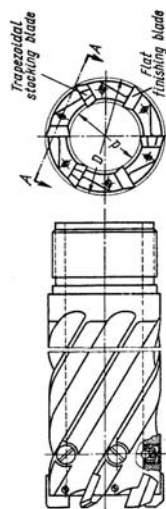

Fig. 4.2.14 Schematic view of a trepanning tool.
- △ Trepanning tool (Fig. 4.2.14) : for large holes in soft materials